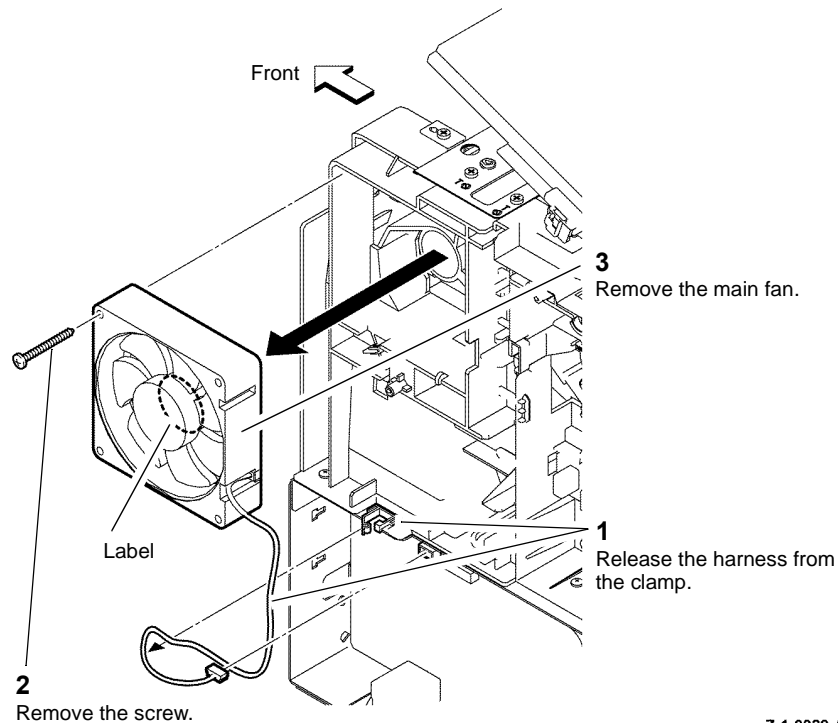

Figure 1 Remove the main fan
3. Remove the main fan, Figure 1.
1. On installation ensure the main fan is orientated with the label side of the fan facing inwards, refer to Figure 1.